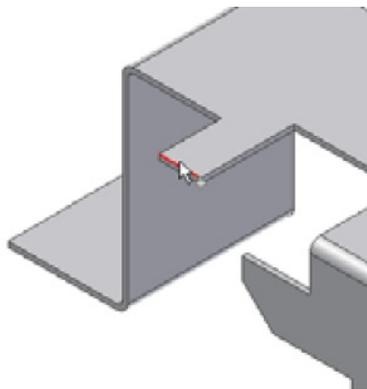

Figure 15-103 Selecting the edge to create the flange
2. Select the edge on the top face of the base feature, as shown in Figure 15-103.